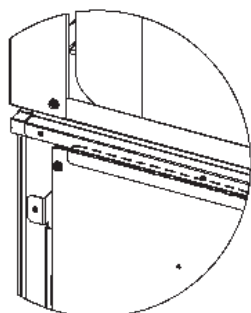

Fig. 3A
- When closing the cover after the repair work, set the upper fringe of the cover should come to align inside the electrical component box. (Fig. 3A)